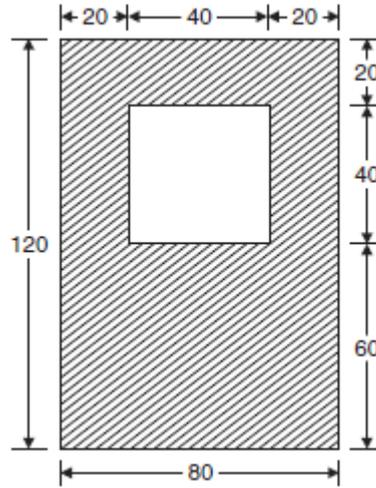

Figure 3
c) The cross-section of a prestressed concrete beam is shown in Fig. 3. Calculate the moment of inertia of this section about the centroidal axes parallel to and perpendicular to top edge. Also determine the radius of gyration..